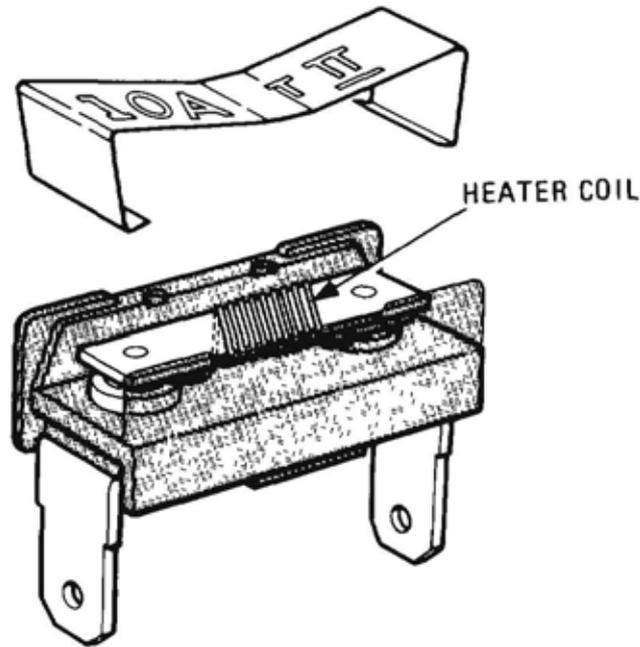

Figure 124 Circuit Breaker (with Heater Coil)
**175.** One type of circuit breaker has a heater coil wound around the bi-metal strip (Figure 124). When the bi-metal strip heats and breaks the circuit, the heater coil, which is connected to both the input and output terminals still has a current (300 Ma maximum) flowing through it. This current flow is enough to cause the heater coil to heat up and, because the coil is wound on the bi-metal strip, the heat is transferred to the strip, keeping the strip distorted, the points open and the circuit broken.